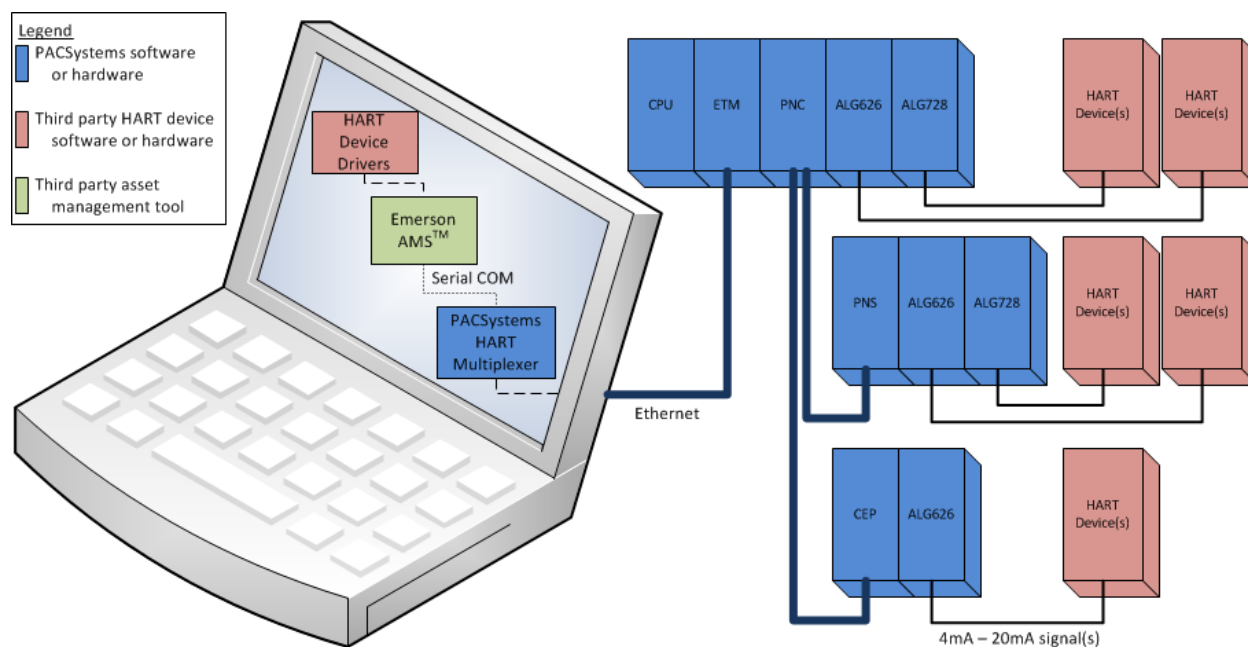

Figure 2: HART Pass Through Showing HART Multiplexers
- The PACSystems HART Multiplexer is installed whenever the HART devices will be configured and monitored using AMS™ from Emerson Process Management™, as shown in Figure 2.